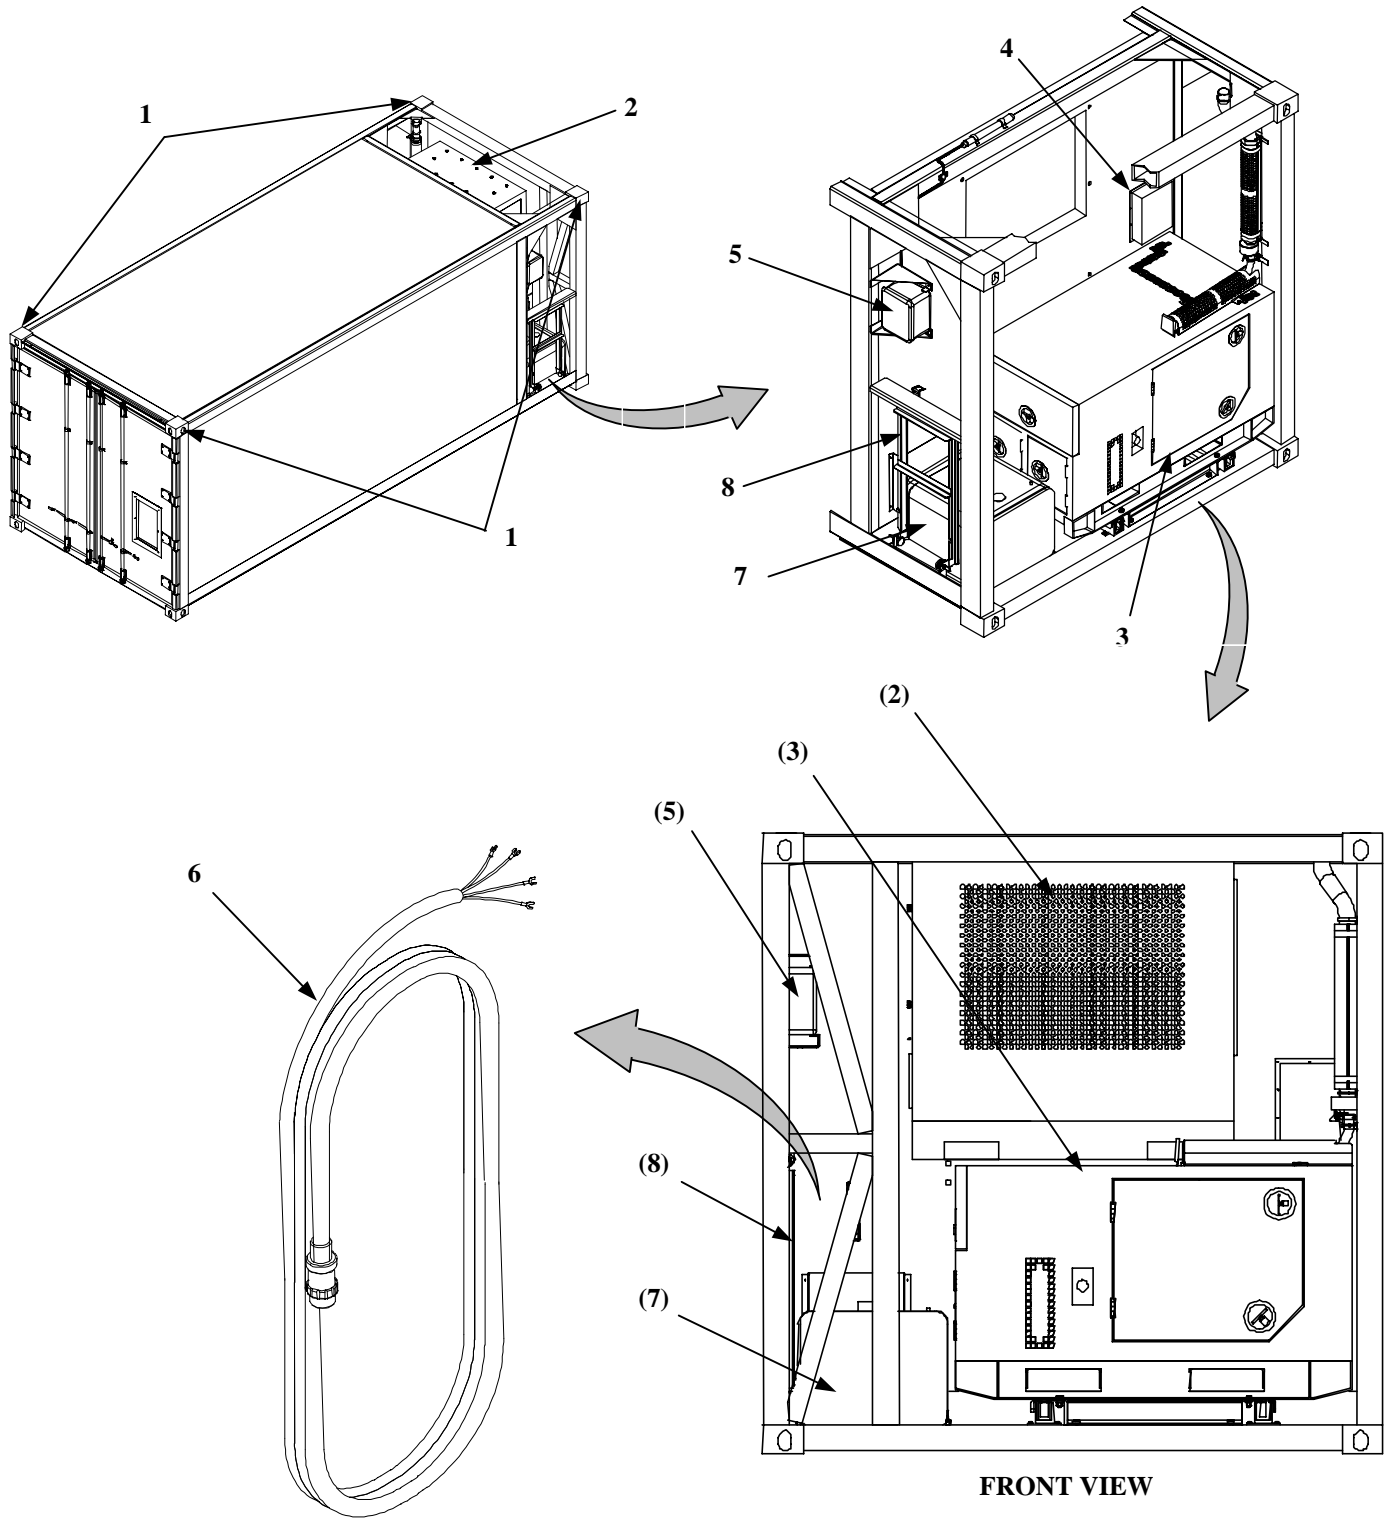

Figure 2. Refrigerated Container Major Components
LOCATION AND DESCRIPTION OF MAJOR COMPONENTS.**REFRIGERATED CONTAINER SYSTEM (Figure 2).****CORNER FITTINGS (1).**